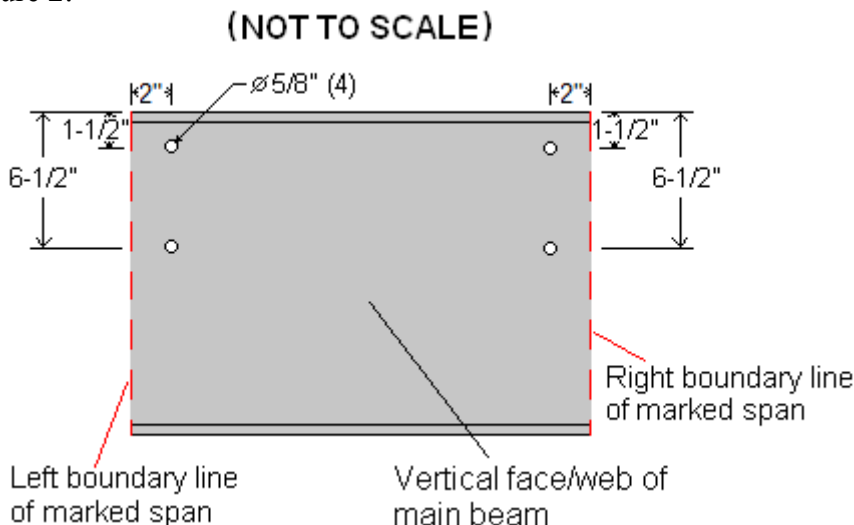

Figure 2 – Illustration of procedurally-drilled locations as described in Steps (3) and (4)
- 3) Using your tape measure and marker, mark a point exactly 1-1/2" vertically/transversely below the skyward-facing surface of the main beam's "top" flange and 2" horizontally/laterally inside the boundary span in step (1), from the line to your left. Next, mark a point exactly 6-1/2" vertically/transversely below the aforementioned top face, and same aforementioned 2" horizontal/lateral measurement. Repeat these two marks on the inside-right region of the boundary span.
- 4) Using your power drill and 5/8"-diameter drill bit, drill into the main beam's exterior vertical face/web at each of the four points that you marked in Step (3) above, all the way through. The basic view of your work thus far should like that in Figure 2: